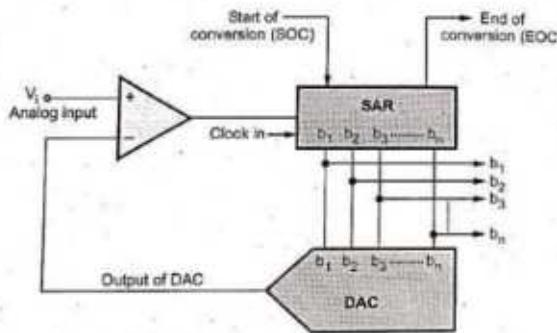

Fig. 6.8.3 Block diagram of successive approximation A/D converter
- Fig. 6.8.3 shows the block diagram of successive approximation A/D converter. It consists of a DAC, a comparator and a successive approximation register (SAR).
- Refer Fig. 6.8.3 and 6.8.4. The analog voltage  $V_i$  is applied at one input of comparator. On receiving start of conversion signal (SOC) successive approximation register sets 3-bit binary code  $100_2$  ( $b_2 = 1$ ) as an input of DAC. This is similar process of placing the unknown weight on one platform of the balance and 4 kg